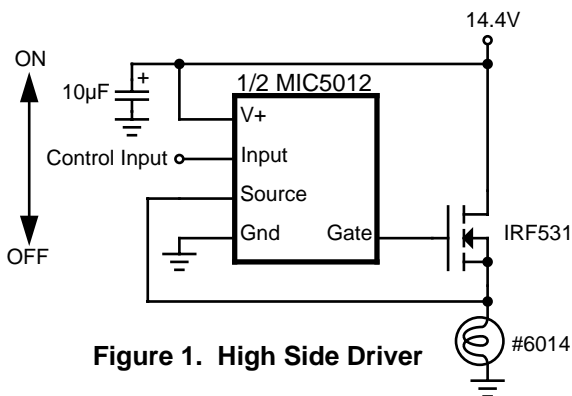
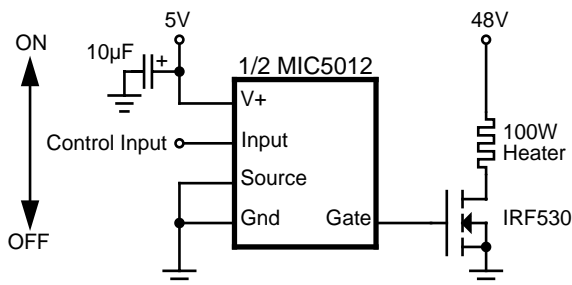

Figure 1. High Side Driver
Figure 2. Low Side Driver
The MIC5012 is suited for use with standard MOSFETs in high- or low-side driver applications. In addition, the MIC5012 works well in applications where, for faster switching times, the supply is bootstrapped from the MOSFET source output. Low voltage, high-side drivers (such as shown in Figure 1) are the slowest; their speed is reflected in the gate turn-on time specifications. The fastest drivers are the low-side and bootstrapped high-side types (Figures 2 and 4). Load current switching times are often much faster than the time to full gate enhancement, depending on the circuit type, the MOSFET, and the load. Turn-off times are essentially the same for all circuits (less than 10µs to  $V_{GS} = 1V$ ). The choice of one topology over another is based on a combination of considerations including speed, voltage, and desired system characteristics.
**High-Side Driver** (Figure 1). The high-side topology works well down to  $V^+ = 7V$  with standard MOSFETs. From 4.75 to 7V supply, a logic-level MOSFET can be substituted since the MIC5012 will not reach 10V gate enhancement (10V is the maximum rating for logic-compatible MOSFETs).
**Low-Side Driver** (Figure 2). A key advantage of the low-side topology is that the load supply is limited only by the MOSFET  $BV_{DSS}$  rating. Clamping may be required to protect the MOSFET drain terminal from inductive switching transients. The MIC5012 supply should be limited to 15V in low-side topologies; otherwise, a large current will be forced through the gate clamp zener. The switching speed to 10V enhancement is 300 $\mu$ s driving 1nF on a 5V supply. On a 15V supply the turn-on time is less than 2 $\mu$ s to 10V